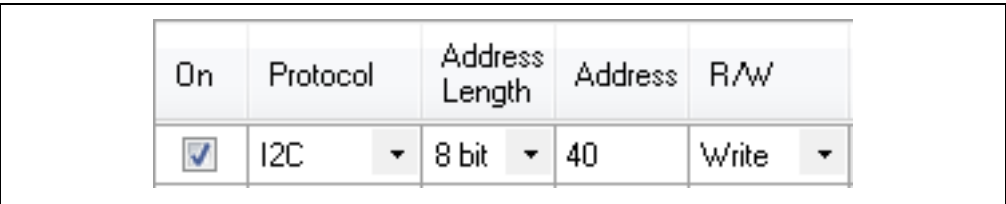

FIGURE 3-8: Command Settings.
2. With A0, A1, A2 pins on the board tied to a 0 logic level, select the protocol, address length, slave address and whether the operation is a read or a write (Figure 3-8). Set the slave address to 40. These settings need to be made for every new command.